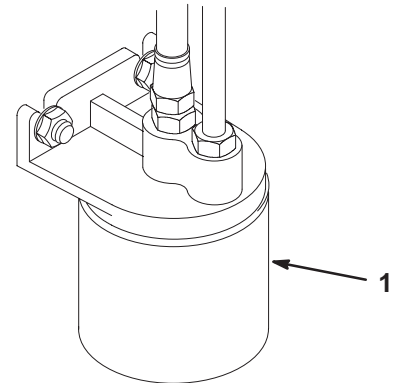

Figure 44
- Place a drain pan under the filter, remove the old filter, and wipe the filter adapter gasket surface clean (Fig. 44).